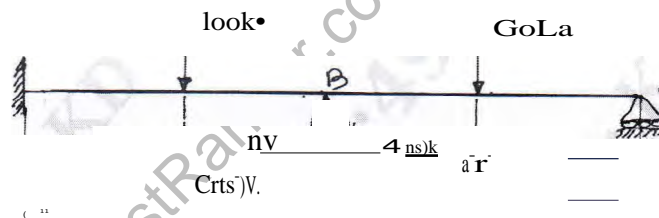

Fig.Q6
- 6 A continuous beam ABC as shown in Fig.Q6 fixed at 'A' and roller support at 'C' and the EI is constant throughout the beam. Determine the Reactions and Moments at the supports. Draw BMD and SFD by using Flexibility method. (20 Marks)